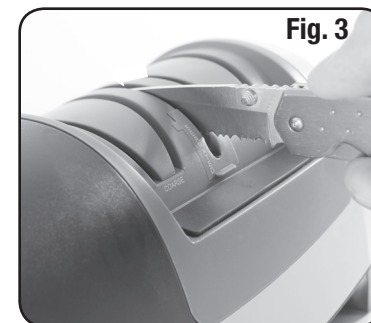

Fig. 3
2. Starting at the heel of the blade, pull the blade through the crossed ceramic stones while applying light, downward pressure (never back and forth). When pulling serrated portion of your blade through the slot, allow the knife blade to rise and fall as the serrations crossover the ceramic stones. (Fig. 3).